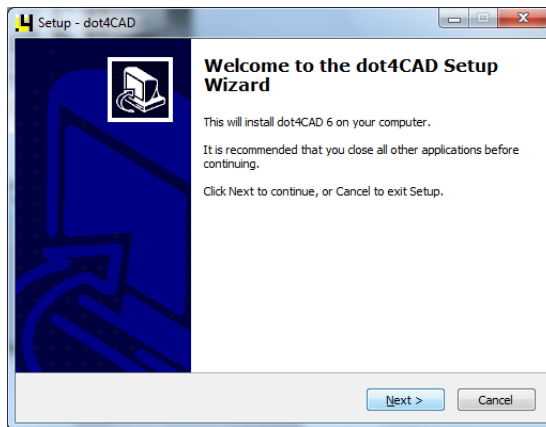

Fig. 37 – dot4CAD Setup Wizard
- Click **Next** to start an installation or **Cancel** to abort it (Fig 37);